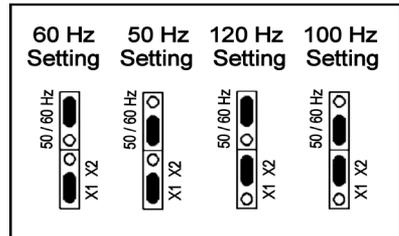

Figure 5—The different ways of setting the base frequency jumper
**BASE FREQUENCY JUMPER**—Models 2996 and 2997 are factory set for 60 Hz output, but can be configured for 50 Hz, 100 Hz, or 120 Hz output by changing the two jumpers on the lower printed circuit board as shown in Fig. 5. When the control is set for 50 Hz or 100 Hz operation, the DECEL/B trimpot will automatically change to adjustable boost.